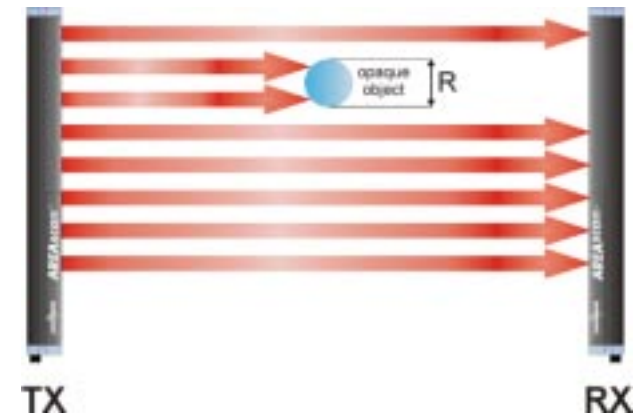

Fig. 8
This mode can be used both for the detection of objects as well as the dimensional measurement (this measurement is supplied to the operator by the analog output 0-10V). The minimum object that can be detected has to be ≥ 6 mm (that represents the minimum resolution (R), Fig.8, of the device in this mode).